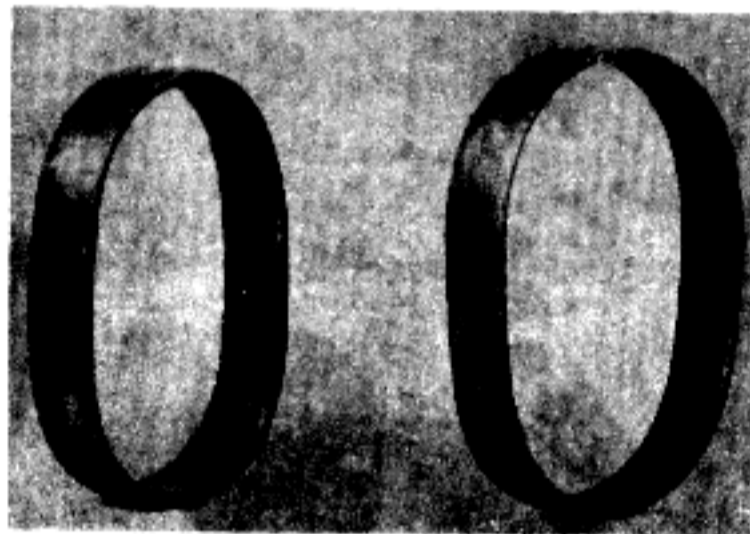
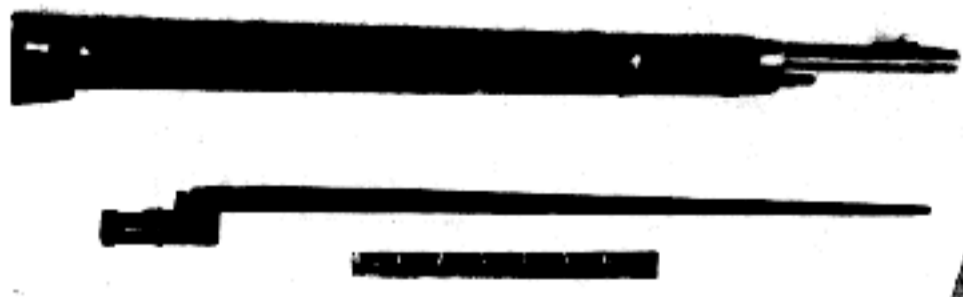

FIGURE 13. STOCK BANDS FOR DRAGOON RIFLE M1891.
FIGURE 14. LOCATION OF UPPER BAND ON DRAGOON RIFLE M1891.
d. The Dragoon rifle M1891 has solid stock bands (fig. 13). The upper band is placed about 3-1/2 inches from the front end of the stock (fig. 14).